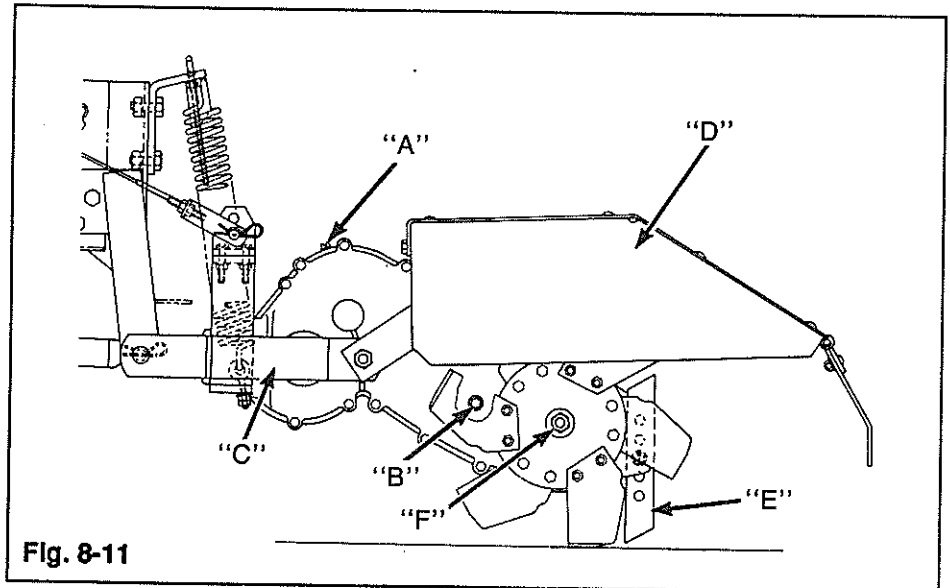

Fig. 8-11
There are two (2) oil hole plugs in the gear case. The one located on the top front is the filler plug (A, Fig. 8-11). The recessed socket pipe plug located on the left side side-wall is the oil level plug (B). Check oil level with unit mounted on the tractor and tines resting on the ground.
2. Remove RH and LH supports (C, Fig. 8-11).
3. Remove hood and hood supports (D).
4. Remove rear depth gage (E).
5. Remove nuts (F) and disassemble unit.